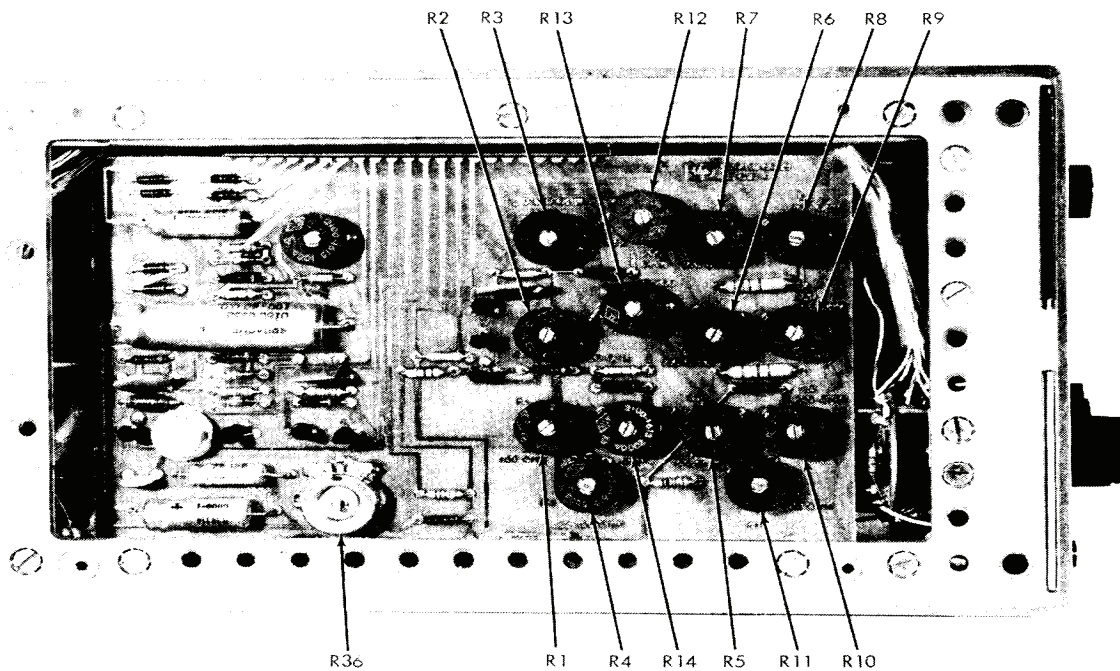

Figure 2. Left interior view.
(8) Repeat (1) through (7) above with 100 ohm thermistor mount connected to the TI and with the TI MOUNT RES switch set to 100Ω.
(9) Reconnect the 200 ohm thermistor mount to the TI and set the MOUNT RES to 200Ω.
b. Adjustments. Adjust the appropriate potentiometer, R1 through R14 (fig. 2), to the mean value.
(7) Repeat the technique in (5) and (6) above for the remaining positions of the TI **RANGE** switch. If both the 200 ohm and 100 ohm thermistor mount are available, perform (1) through (6) above for both mounts.
b. Adjustments. Adjust R1 through R14 (fig. 2) as appropriate.
- (2) If the multimeter does not indicate between -17.98 and -18.02 volts dc, perform **b** below.
- (3) Vary the output of autotransformer between 105 and 125 volts ac. The multimeter indication will remain within the limits specified in (2) above.
- (4) Adjust the autotransformer for a 115 volt ac output.
b. Adjustments. Adjust R36 (fig. 2).